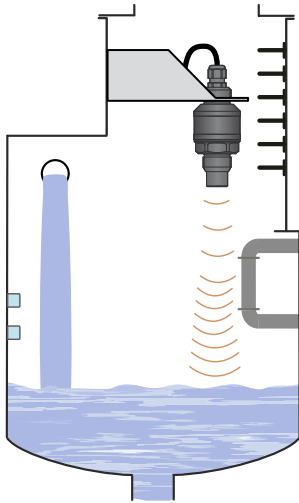

Fig. 6: False reflection from barrier
- If the emitted acoustic signal of the level meter is affected by nearby objects (edges of drains and channels, unevenness on the tank walls, various partitions, stirrers, etc.), it is necessary to create a map of false reflections by activating the "**LEARNING**" mode. In the case of installed stirrers, it is necessary to move the stirrers to the position below the level meter (direct the stirrer blade to the place of the ultrasonic signal), see Fig. 6 and 7.